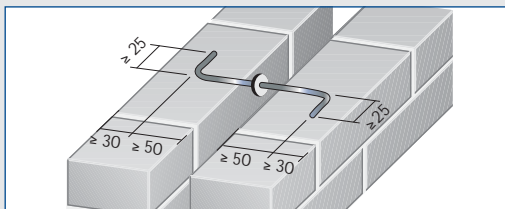

Fig. 9: Anchoring of facing shells with cavity wall ties to the masonry in accordance with DIN 1053-1
e) The brickwork shells are to be connected using wire anchors made of stainless steel with the material numbers 1.4401 or 1.4571 in accordance with DIN EN 10 088 (Table 11). In terms of form and dimensions, the wire anchors must correspond to Fig. 9. ...
At all free edges (of openings, corners of buildings, along expansion joints and at the upper ends of the external shells), three wire anchors should be provided per metre of edge length in addition to the specifications in Table 11. Other anchoring types of wire anchors are permitted if it is demonstrated with a test certificate that the anchoring type can absorb a tensile force and a compressive force of at least 1 kN with slip of 1.0 mm per wire anchor. If one of these values is not attained then the number of wire anchors should be increased accordingly. Whilst making sure that the wire anchors should attain their structural properties, they should also be designed in such a way that they cannot conduct moisture from the external shell to the internal shell (e. g. by sliding on a plastic washer, Fig. 9). Other anchor forms (e.g. flat steel anchors) and dowels in the brickwork are permissible provided their usefulness has been verified in accordance with the relevant building regulations, e.g. through general building regulations approval. Without compromising their static efficacy, the wire anchors shall be executed in such a way that they cannot conduct any moisture from the external shell to the internal shell (e.g. by pushing on a plastic disc). Other anchor forms (e.g. flat steel anchors) and dowels in the brickwork are permissible provided their suitability is demonstrated in accordance with the technical building approval regulations, e.g. through a general technical approval.